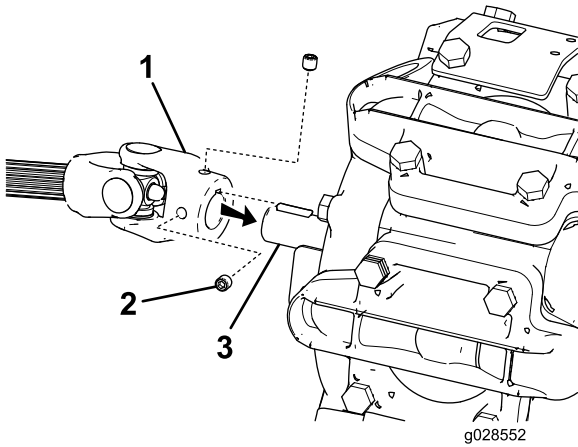

Figure 4
3. Remove the 2 set screws on the PTO shaft end (Figure 4).